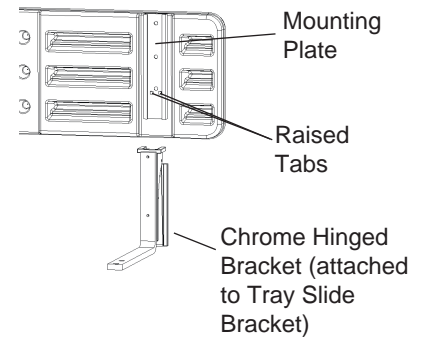

Figure 3
Step 6: With Food Bar upright, hold Tray Slide **above** Tray Slide Brackets. Mounting Plates on back of Tray Slide should be **closer to the top** with the raised tabs on the mounting plate **toward the bottom** (see Figure 3).